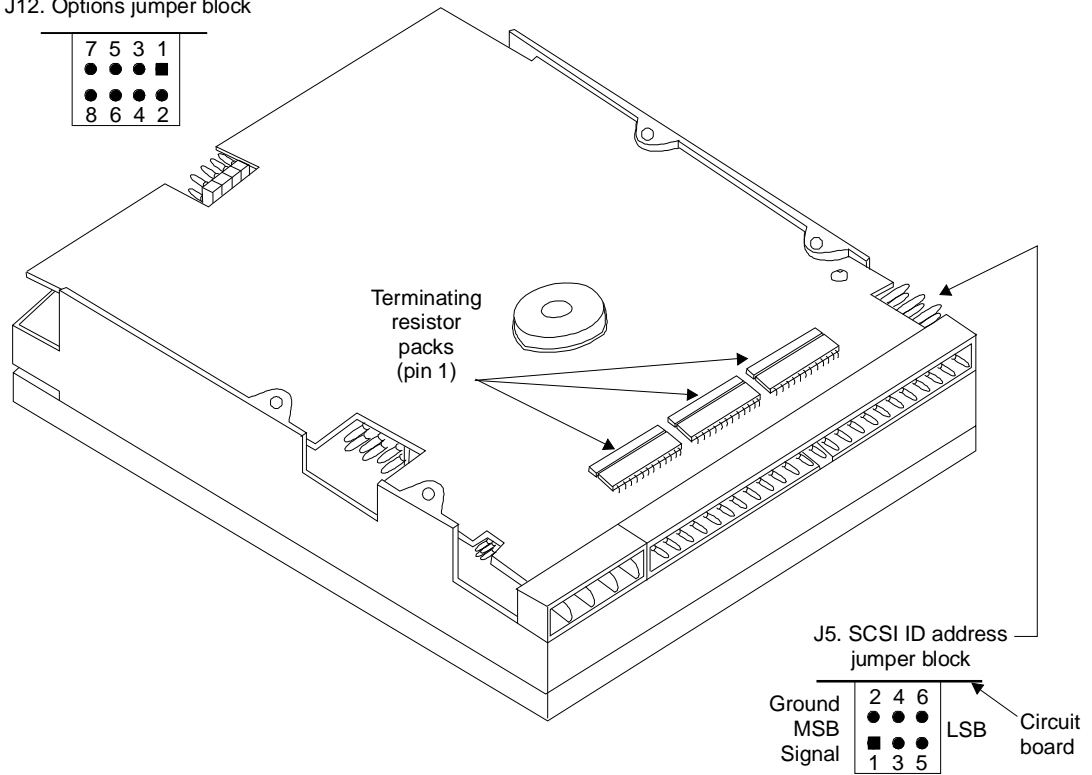

Figure 4-6. Location of Seagate ST3550N Jumper Fields and Bus Terminators.
The Seagate drive is a hard disk drive with approximately 456 megabytes that provides up to 58 hours of voice storage when used on the DEFINITY AUDIX System. It supports the SCSI interface. Figure 4-6, shows the location of the Seagate ST3550N jumper fields and bus terminators.
- Interface terminator packs should not be installed. See Figure 4-6 for the location of these terminator packs. Verify that they are not present. Normally no action is required since all drives should be shipped without these terminator packs.
- Bus Parity - When a jumper is installed on pins 1-2 of this jumper block, the drive will check the SCSI bus parity. The drive will operate in AUDIX with or without this jumper. However, it is recommended that this jumper be installed. (see Figure 4-6).
These three jumpers are identified in Figure 4-6.